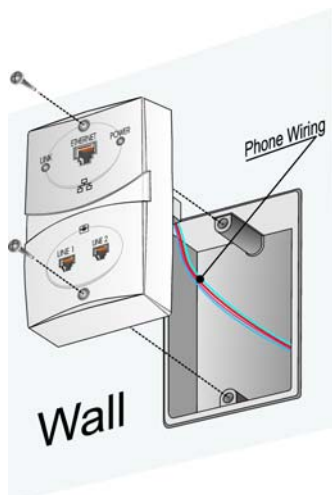

Figure 2.23: Mounting the Smart Outlet™ onto a standard phone jack
- Step 6** Fasten the Smart Outlet™ to the back plate using the screws provided by SercoNet, as shown in Figure 2.23.